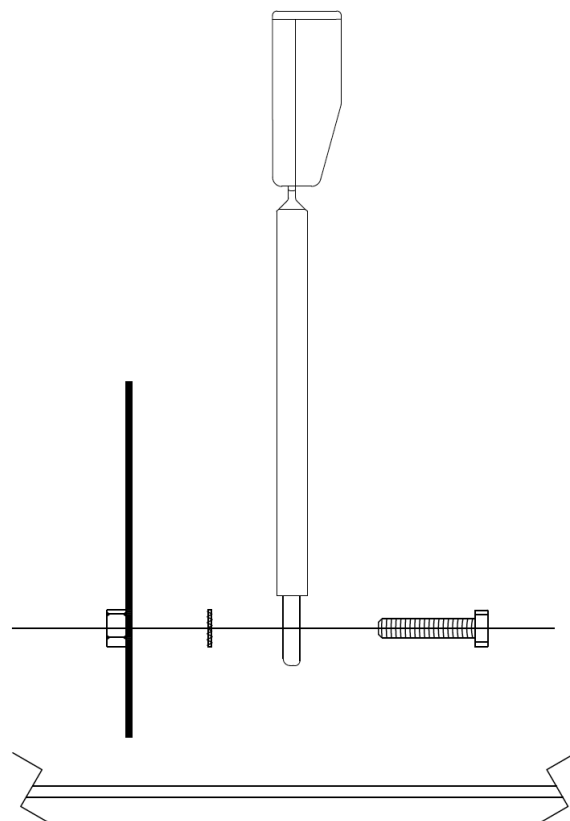

Fig. 6
1. Assemble hardware as shown in **Fig. 6** (below).